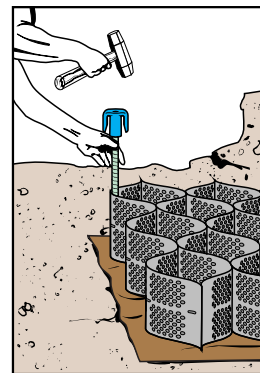

Figure 4 Stake Anchorage
- **Option 3:** Expand the GEOWEB section into position and anchor with stakes. See Figure 4.